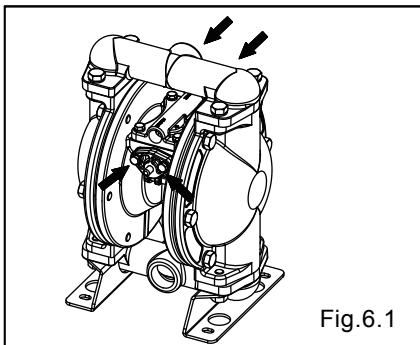

Fig.6.1
- Unscrew the four bolts and remove the plate B, the plate C and the gasket.[Fig.6.1]